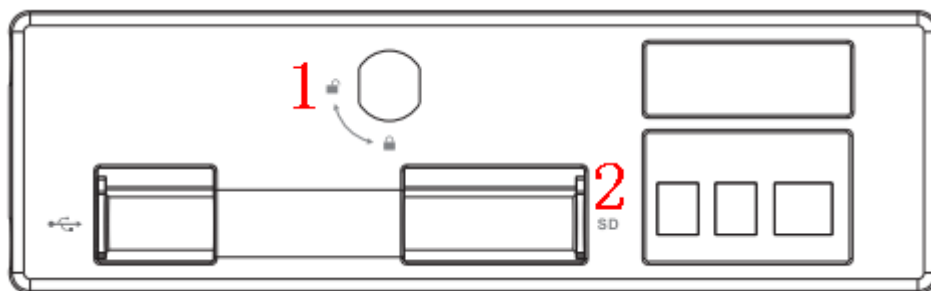

Figure 3-1
- Refer to Figure 3-1 to push to the left side to open the SD card protection cover. Insert the SD card to the slot. Push to the right side to close the SD card protection cover.